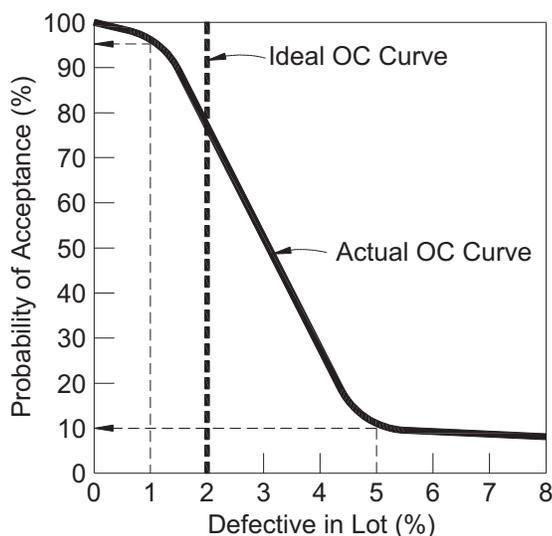

Figure B1 - Ideal and Actual Operating Characteristics Curves for a Sampling Plan
Both of the risks can be quantified by sampling-plan-specific operating characteristics (OC) curves. The OC curve for a sampling plan is a graph that plots the probability that the sampling plan will accept a lot (i.e., the Pa value) versus the percent defective samples in that particular lot. Note that the term "sampling plan" used here corresponds to a batch of "n" destructive testing samples and the criteria for adjusting the sampling interval. Recall Table 2 in the main body of this guide. Figure B1 illustrates the concept of OC curves. In Figure B1, the dashed curve represents an "ideal" OC curve. Here it is desired to accept all lots having less or equal than 2% and reject all lots having greater than 2% failures. In reality, all sampling plans have risks that a "good" lot will be rejected or a "bad" lot will be accepted. This is illustrated by the solid S-shaped curve shown in Figure B1. It is seen that this particular sampling plan will have a 5% risk (100% - 95%) of rejecting a lot having only 1% defects (i.e., a "good" lot) and a 10% risk of accepting a lot having 5% defects (i.e., a "bad" lot).